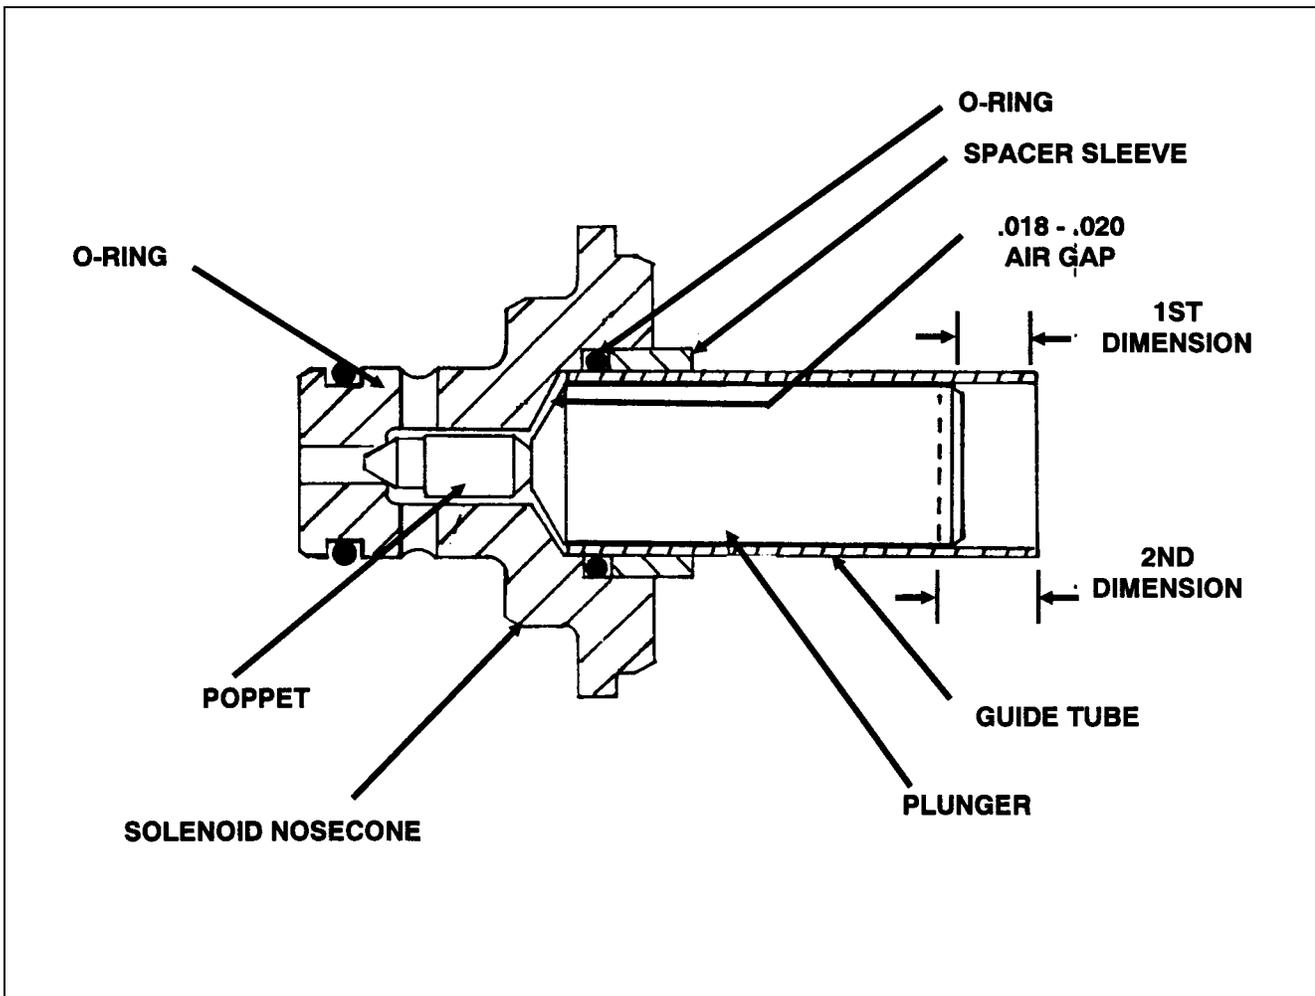

Figure 2-31. Racine Proportional Air Gap Adjustment, Machines Built Prior To Mid 1987.
NOTE: The assembly in Figure 2-31 includes select fit parts in order to maintain a proper air gap. These parts must remain as an assembly or if disassembled, controlled to insure that these component parts are not intermixed with similar parts.
- a. *With all parts assembled as shown in Figure 2-31, use a depth mike or other measuring instrument to determine the distance from the end of